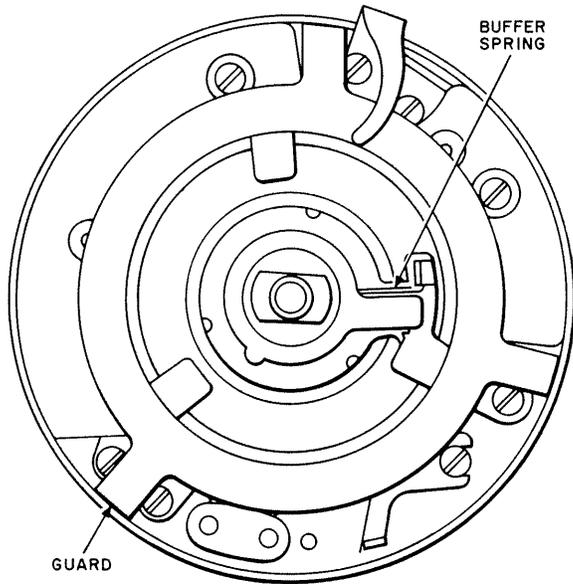

Fig. 10 - 5-Type Dial Showing Buffer Spring and Metal Guard
3.05 Parts of the dial shall not be broken or missing. (A broken buffer spring on a 5-type dial is permissible, Fig. 10.)